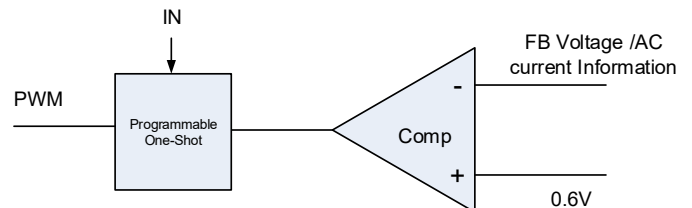

Figure 2. Simplified Control Schematic of AOZ22555QI
The simplified control schematic is shown in Figure. 2. The high-side switch on-time is determined solely by a one-shot whose pulse width can be programmed by one external resistor and is inversely proportional to input voltage (IN). The one-shot is triggered when the internal 0.6V is higher than the combined information of FB voltage and the AC current information of inductor, which is processed and obtained through the sensed lower-side MOSFET current once it turns-on. The added AC current information can help the stability of constant-on time control even with pure ceramic output capacitors, which have very low ESR. The AC current information has no DC offset, which does not cause offset with output load change, which is fundamentally different from other  $V^2$  constant-on time control schemes.